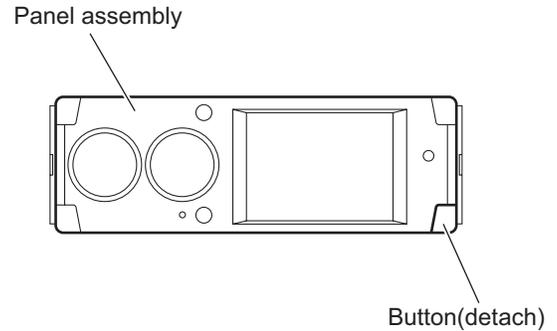

Fig.1
3.1.1 Removing the panel assembly (See Fig.1)